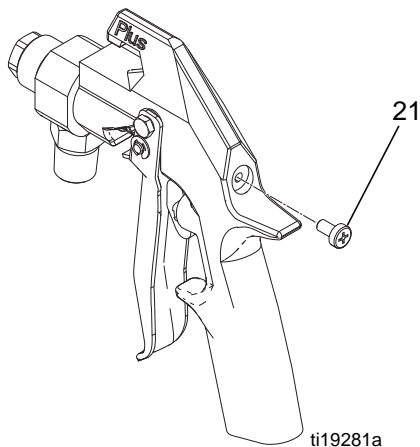

FIG. 18
8. If it was removed, install the spring tension screw (21) at the rear of the gun. Then turn the screw in until it stops. See FIG. 18.